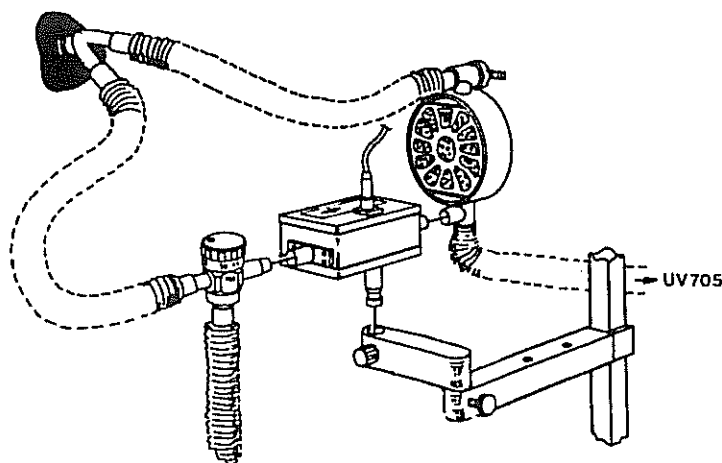

Fig 14
3.6 Connecting the spirometer (see Fig. 14)